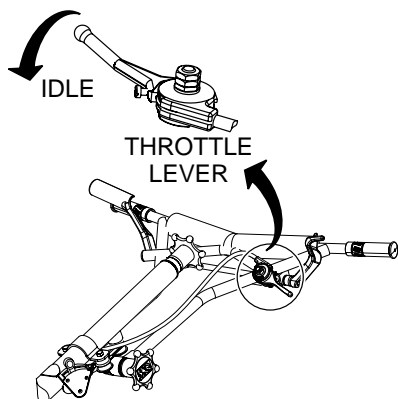

Figure 37. Throttle Lever (Idle)
1. Move the throttle lever to the (Figure 37) "IDLE" position and run the engine for three minutes at low speed.